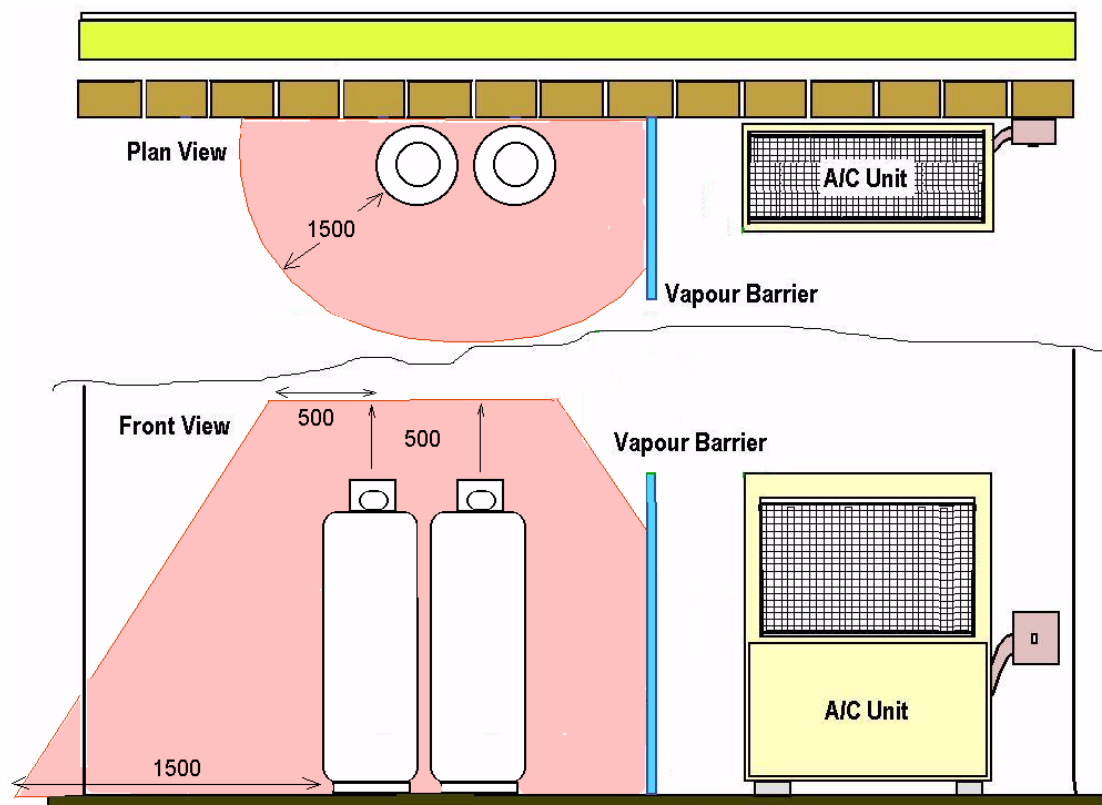

Figure 1
2. Measure and cut a piece of string to the appropriate length depending on the height and size of the ignition source. Figure 1 shows an external condenser compressor unit too close to exchange LP gas cylinders.
3. Tape the string ends to the nearest front sides of both the LP gas cylinders and A/C compressor. (Figure 1)
4. Gently pull the string outwards, horizontally away from the wall at the midpoint between the gas wall box and A/C compressor unit and measure back to the wall from the string line to give you the width of the vapour barrier. (See C in Figure 1)
5. Now gently pull the string upwards, vertically at the midpoint above the gas wall box and A/C compressor and measure from the string line down to the ground to give you the height of the vapour barrier. (See D in Figure 1)